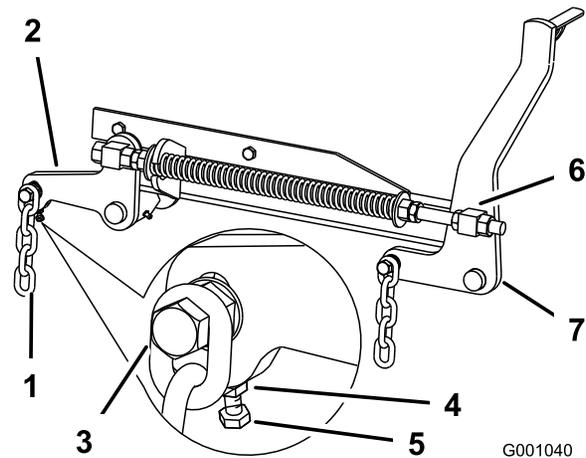

Figure 81
7. If the measurements at positions **B** or **C** are not correct, loosen the bolt attaching the rear chain to the rear support arm (Figure 81).
8. Loosen the jam nut under the rear support arm and adjust the adjustment bolt to get a measurement of 3-1/8 to 3-1/4 inches (80 to 83 mm)(Figure 81).
7. Loosen the front swivel jam nuts, at the front of the right and left swivels, approximately a 1/2 inch (13 mm) (Figure 81).
8. Adjust the lift nuts on both the left and the right side of the machine to achieve 1/4 to 3/8 inch (6 to 10 mm) lower in front at **A** than in the rear at **B** (Figure 81).